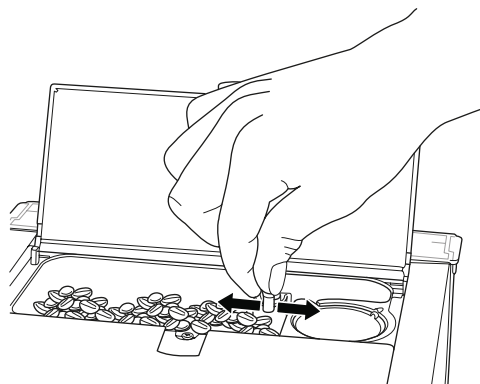

Fig. 8: Setting the grinding fineness
5. Set the grinding fineness of the beans on the grinder regulator while the grinder is grinding. To do this, press the grinder regulator down and turn it (Fig. 8)